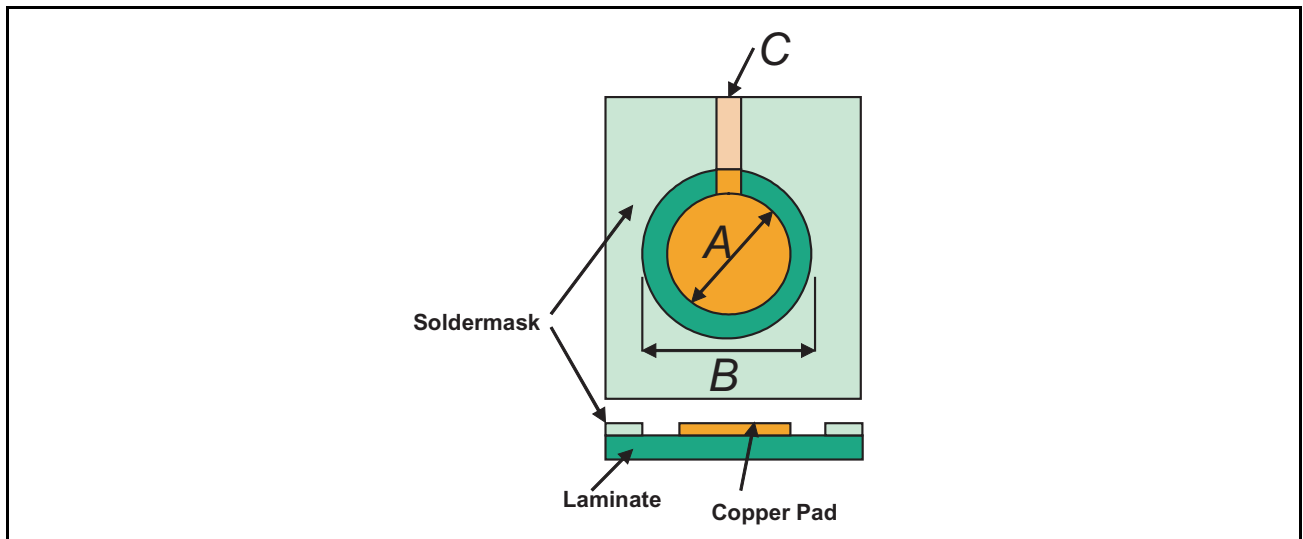

Figure 4: Recommended Laminate Pad Geometry (NSMD)
The guidelines shown in Figure 4 and Table 3 are recommended for designs using laminate substrates (i.e., FR4, BT, etc.).
**Note:** Non-soldermask defined pads (NSMD), as shown in Figure 4, are recommended.